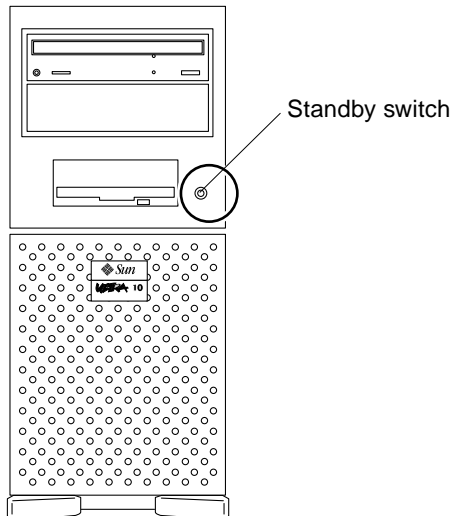
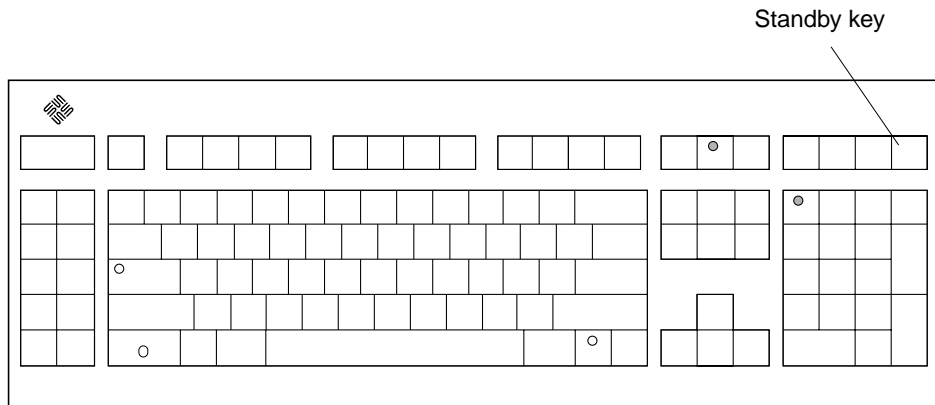
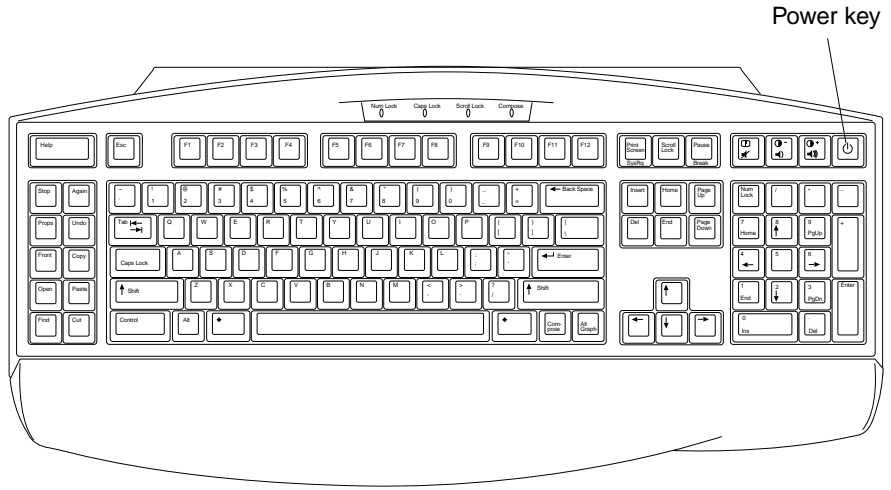

FIGURE 10-3 System Standby Switch
FIGURE 10-4 Sun Type-5 Keyboard
FIGURE 10-5 Sun I/O Type-6 Keyboard
5. Press the standby switch (FIGURE 10-3), or press the Sun Type-5 keyboard Standby key (FIGURE 10-4) or the Sun I/O Type-6 keyboard Power key (FIGURE 10-5).